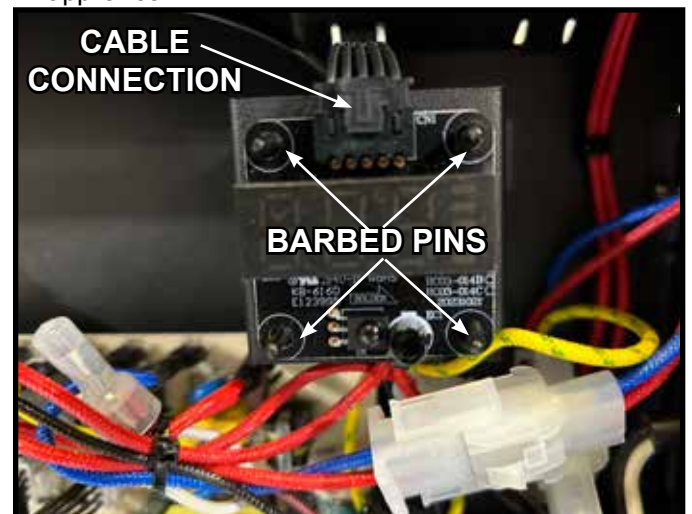

Figure 8 Receiver Board Removal
2. Unplug the cable and disengage barbed pins using needle nose pliers. See Figure 8. Remove the Receiver Board. Install replacement board by pushing it onto the barbed pins and re-connecting the cable.